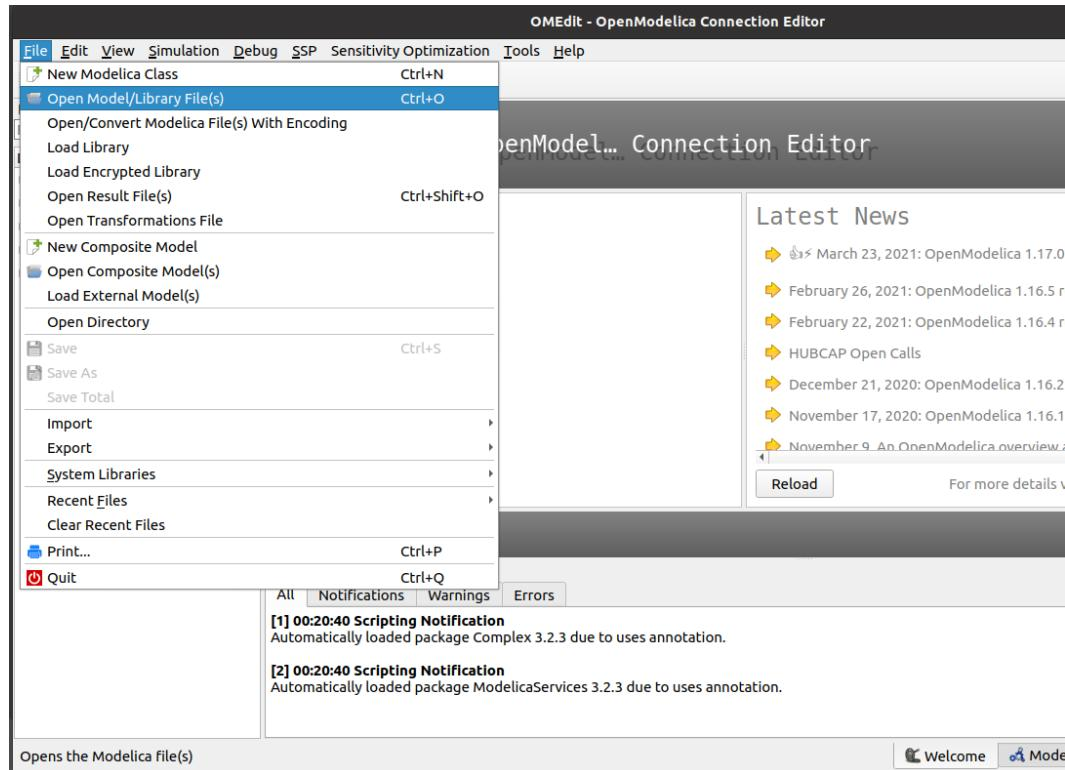

Figure 3.36: Opening a model in OMEdit
The files or models in OpenModelica have ‘.mo’ extensions. Though there are several ways to simulate or run an OpenModelica model, we will execute the models by utilizing the user interface of OMEdit. To open a model in OMEdit, go to the menu bar of OMEdit and click on File -> Open Model/Library File(s), as shown in Fig. 3.36. Then, select the desired model (with ‘.mo’ extension) and click Open. The names of tabs in this book have been mentioned according to OpenModelica 1.17.0. You might observe a bit of difference in these names while working with other versions of OpenModelica.
2. After launching, we have to load OpenModelica-Arduino toolbox. To do so, go to the menu bar of OMEdit. Click on **File** and then click on the **Open Model/Library File(s)** option as shown in Fig. 3.36.